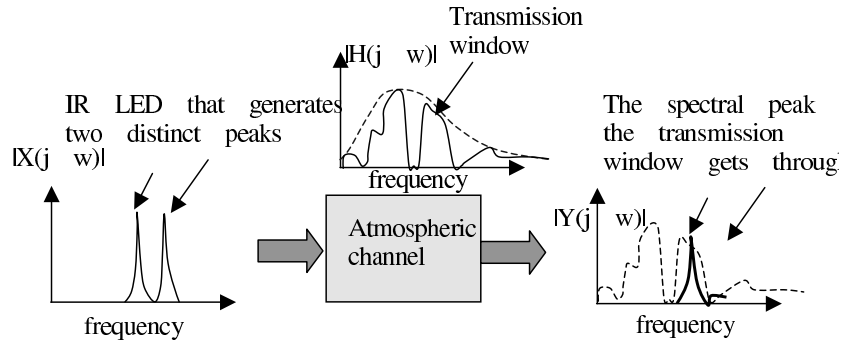

FIGURE 3. Atmospheric Channel's Frequency Response
channel. One possible frequency response is shown below in figure 3. What you'll see is that the atmospheric channel's transfer function has several "holes" in it. The holes refer to places where the atmosphere absorbs EM radiation. Obviously, if we were to transmit a signal in a frequency range covered by one of these holes, then very little of the signal would reach the receiver. So the transmitter usually encodes the information signal onto a carrier wave whose frequency sits in one of the frequency "windows" in which the atmosphere is nearly transparent. One of these particular windows occurs in the **infra-red** (IR) range of the EM spectrum, which is why we're building an IR wireless link in this lab.